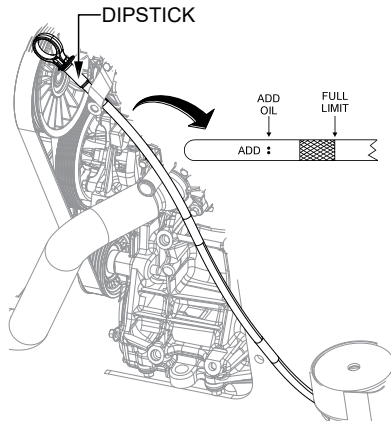

Figure 9. Engine Oil Dipstick
1. Pull the engine oil dipstick (Figure 9) out of its holder and wipe it with a clean rag.
3. Determine if engine oil is low. Oil should be between the upper and lower marks (Figure 9) on the dipstick.